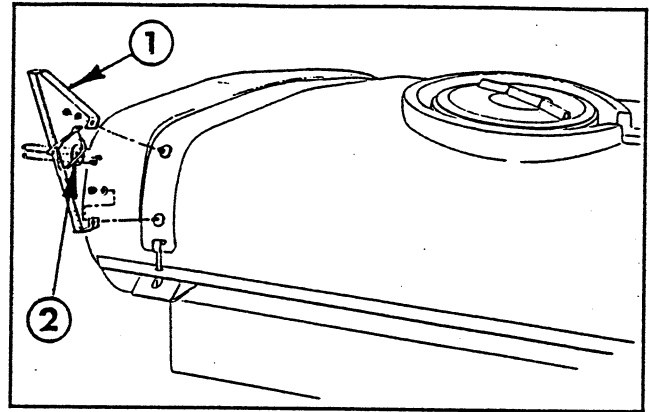

FIG. 9
34. Attach the boom hold-in brace assemblies to the (2) 5/16" x 3/4" carriage bolts found on each side of the front tank mounting band using (4) flatwashers and (4) 5/16" hex nuts. Tighten securely (FIG. 9).
35. Attach the boom hold-in assemblies to the hold-in brace assemblies mounted on each side of the front tank mounting band using (4) 1/4" U-bolts and (8) 1/4" lock nuts (FIG. 9).